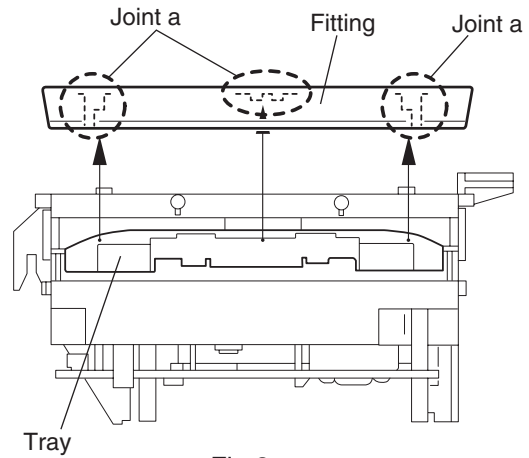

Fig.3
■ Removing the clamper base / tray (See Fig.3 ~ 5)